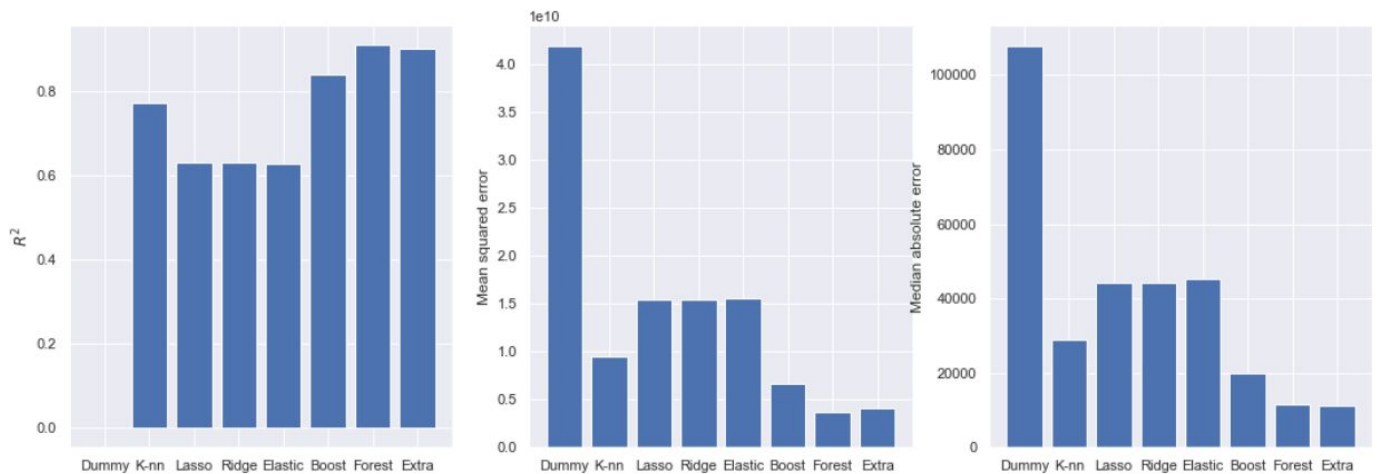

Figure 3.1
6. After processing all the data we train our model using Random Forest regression because we tested our dataset with dummy regression , KNeighbors regression , lasso regression, Ridge regression, ElasticNet regression, GradientBoosting regression , Random Forest regression, ExtraTrees regression and the Random Forest regression gave the best prediction (R-squared) . See figure 3.1